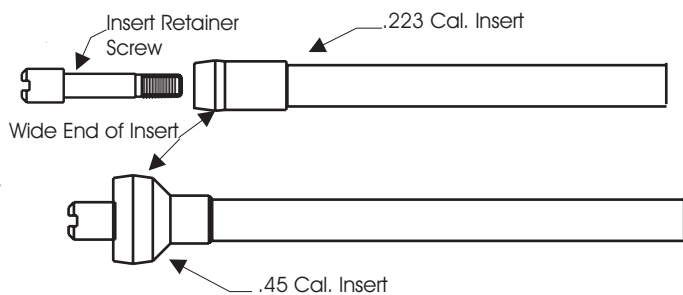

FIGURE 2-3
2. Slip the appropriately sized insert onto the Insert Retainer Screw. The widest end of the insert is slipped onto the Insert Retainer Screw first. See Figure 2-3 below.